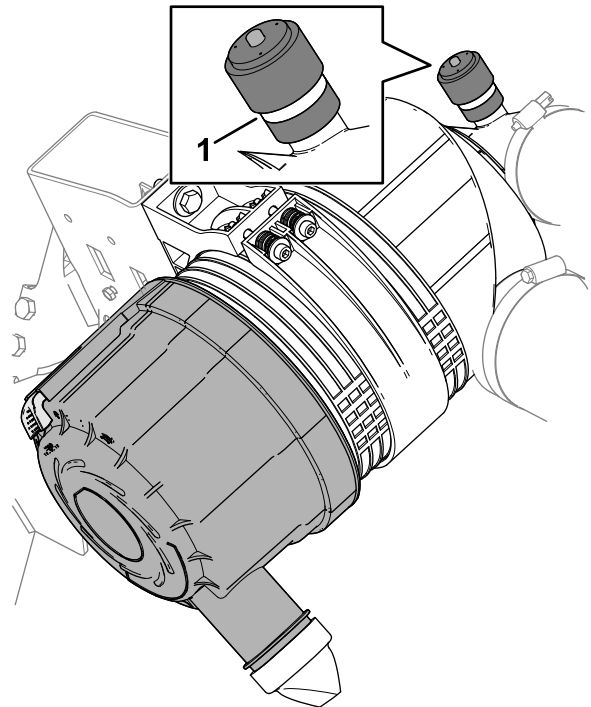

Figure 117
3. Check the service indicator at the end of the air filter housing (Figure 117).